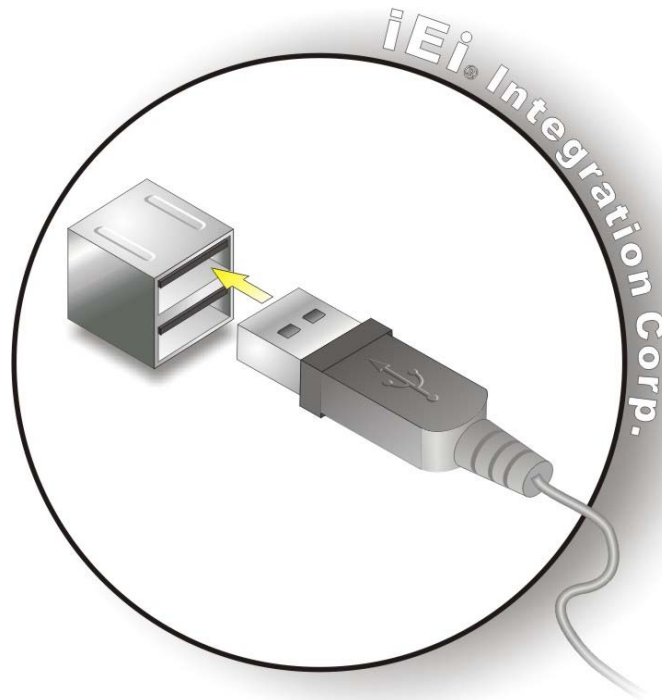

Figure 4-25: USB Connector
Step 2: Insert a USB 2.0/3.0 plug. Insert the USB 2.0/3.0 plug of a device into the USB 2.0/3.0 on the external peripheral interface. See **Figure 4-25**.